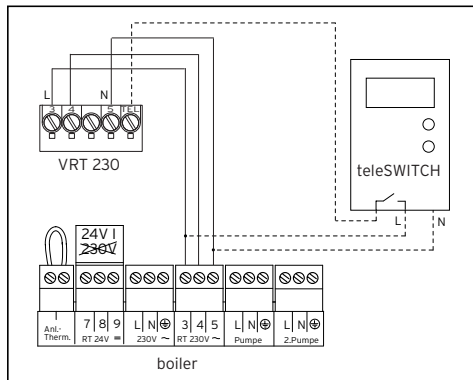

Fig. 10.1 Electrical connection
- Connect the teleSWITCH as shown in fig. 10.1. Follow the instructions for the teleSWITCH.